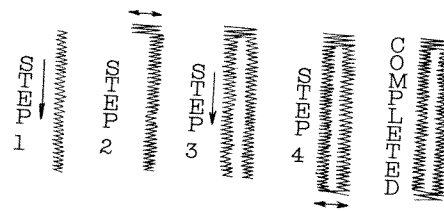

Fig. 32
- (5) Lower needle carefully into the marks on fabric indicating the beginning of buttonhole. Stitch to the mark for the end of the buttonhole, Step 1, Fig.32, stopping machine with needle in fabric at right side of stitching.
- (6) Lift the presser foot and using the needle as a pivot, turn the fabric end for end.
- (7) Lower presser foot and turn hand wheel just enough to raise needle out of fabric.
- (8) Drop feed all the way down (drop feed knob at DN position) and move zigzag lever down as far as it will go against lock. While holding the lever at this position, take five or six stitches to form bar tack, Step 2, Fig.32.
- (9) Raise needle out of fabric and return feed to "HI" position and stitch width lever to the lower position automatically.
- (10) Stitch second side of buttonhole, Step 3.
- (11) Make bar tack by repeating (8) and (9) above ... Step 4.
- (12) Return stitch width to 0 and take two or three stitches to fasten the threads and prevent raveling.
- (13) Cut the buttonhole opening with a seam ripper, being careful not to cut the stitching.